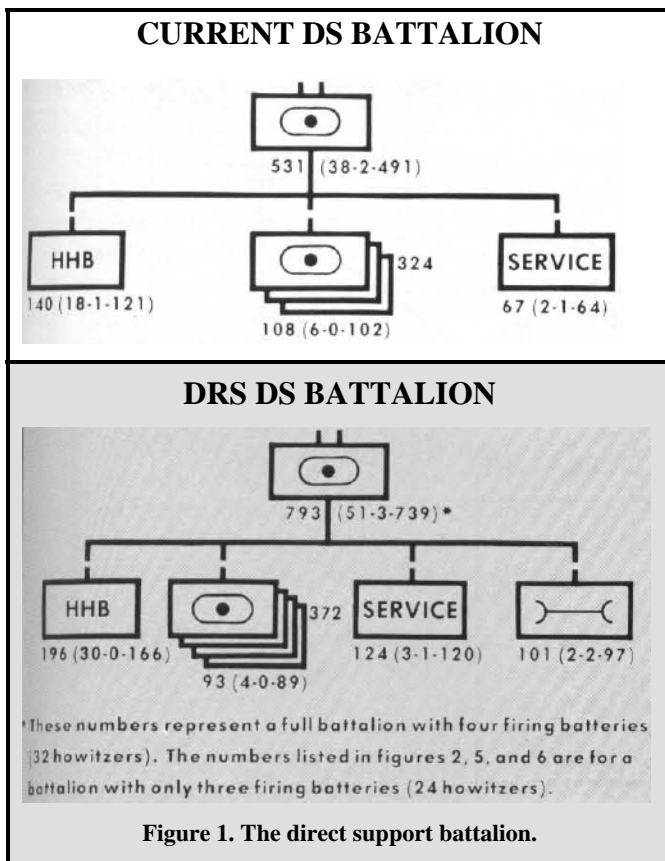

Figure 1. The direct support battalion.
The organizations for a four-battery DRS direct support (DS) battalion and a current DS battalion are shown in figure 1. At first glance, the major differences appear to be the addition of one firing battery and a maintenance battery. However, there are significant internal changes that are designed to achieve maximum lethality with minimum additional personnel.